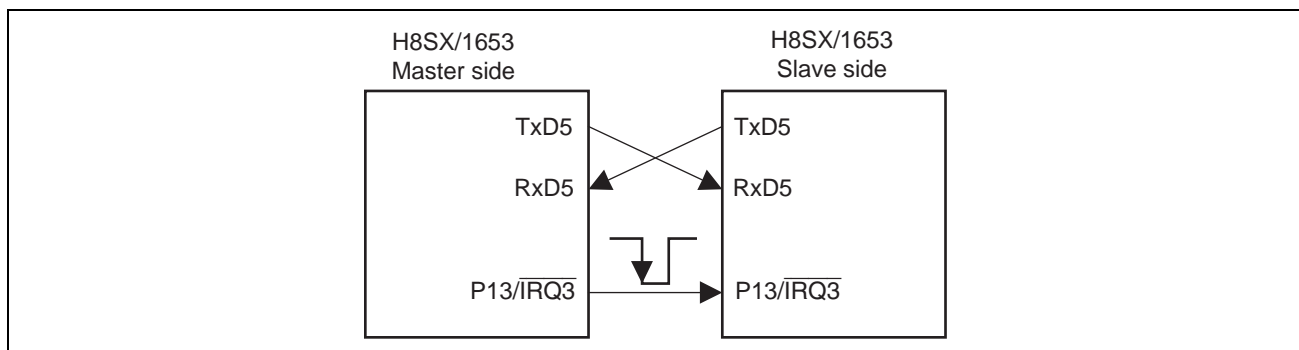

Figure 1 Setup for Asynchronous Communications with Timing from the Timer Clock Input
- Connect the H8SX/1653 as shown in figure 1.